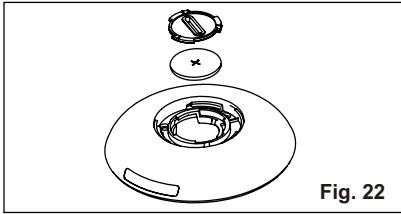

Fig. 22
3. Use the same way to open the protecting cover inside and take out the battery. (Fig. 22)